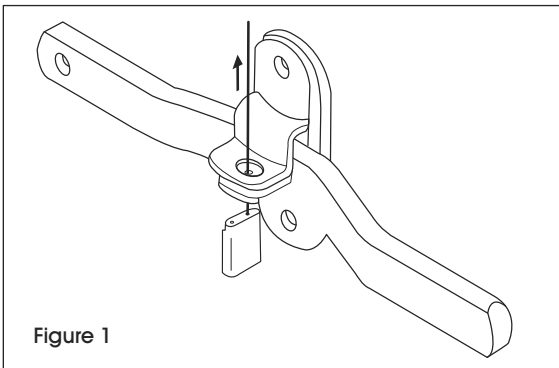

Figure 1
3. Insert long end of cable through hasp. (See Figure 1)